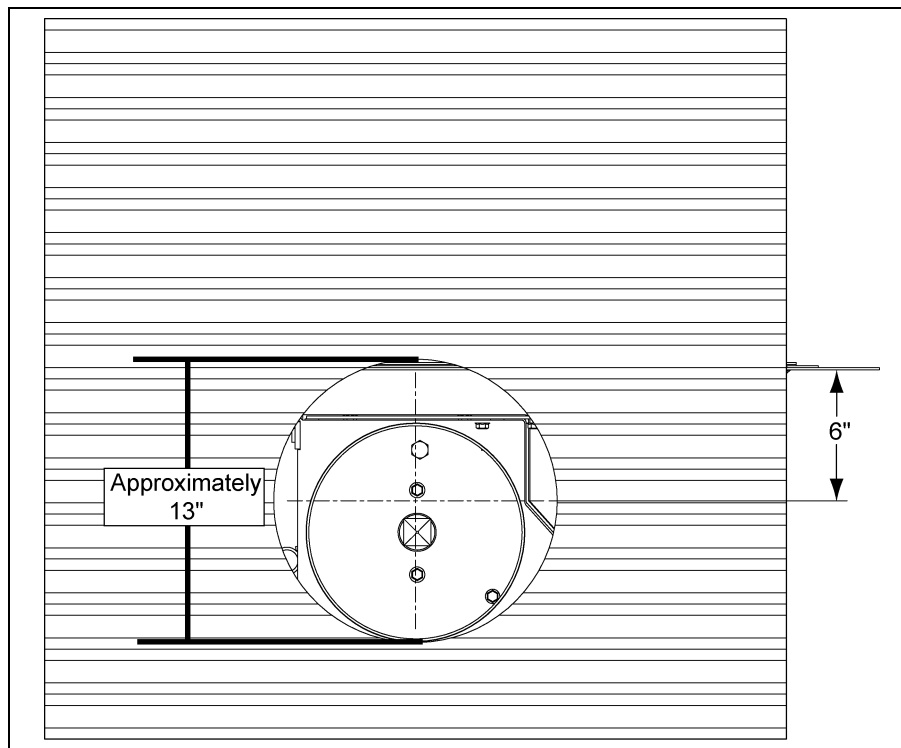
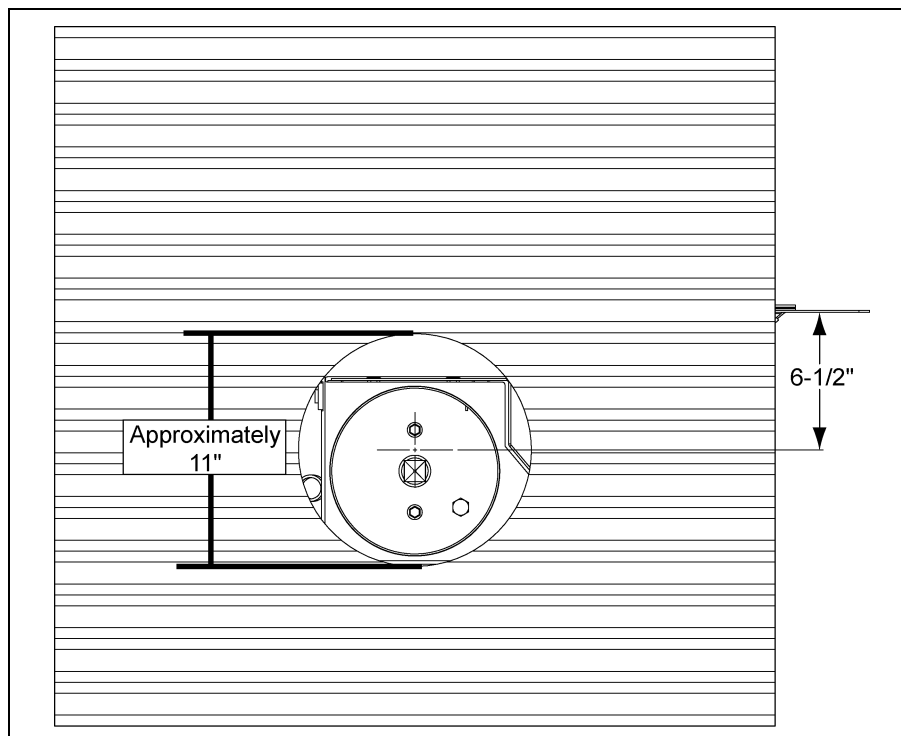

Figure 4E 10" Tube
Figure 4F 8" Tube
1. Cut an opening in the bin wall for the unloading tube to pass through. See Chart on Page 18 for hole information. Additional views of the holes can be found in Figure 4E, Figure 4F below and Figure 4G on Page 18.